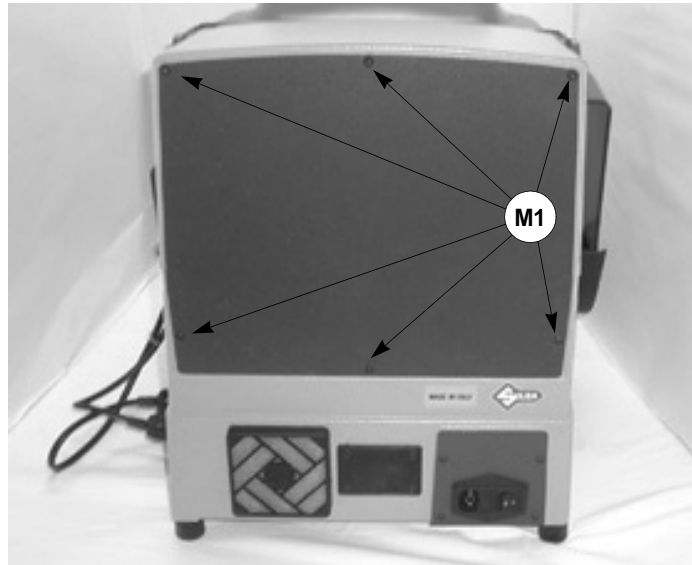

Fig. 141
- 2) unscrew the 6 (M1) screws that secure the back panel (fig. 141) thus removing it.